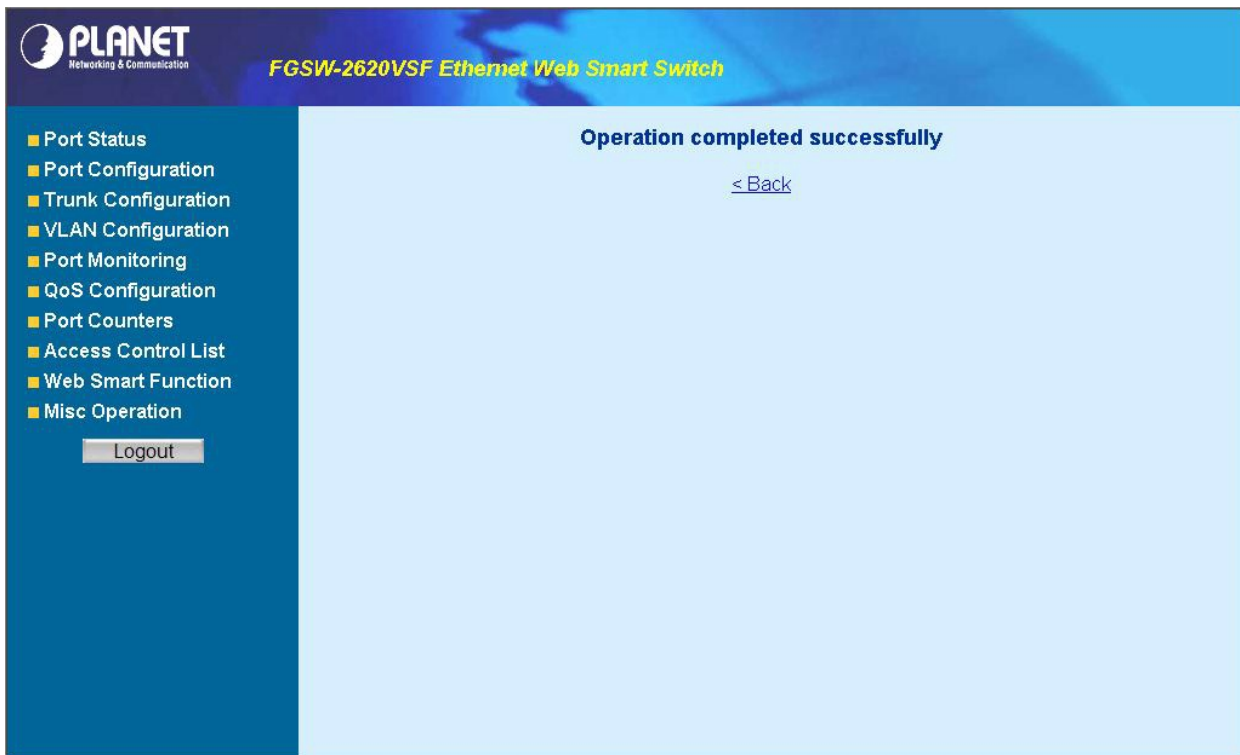

Figure 4-21 Delete Port-based VLAN group Web Page screen
4. Please press **“Back”** for return to VLAN configuration screen to continue VLAN configuration. The screen in Figure 4-21 & 4-22 appears.